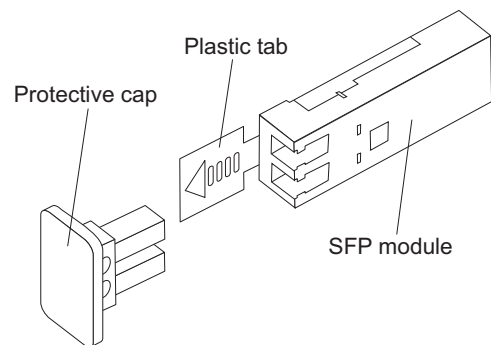

Figure 24. SFP module and protective cap
2. Remove the protective cap from the SFP module, as shown in Figure 24. Save the protective cap for future use.
2. If necessary, remove the protective cap from the SFP module, as shown in Figure 24 on page 47. Save the protective cap for future use.